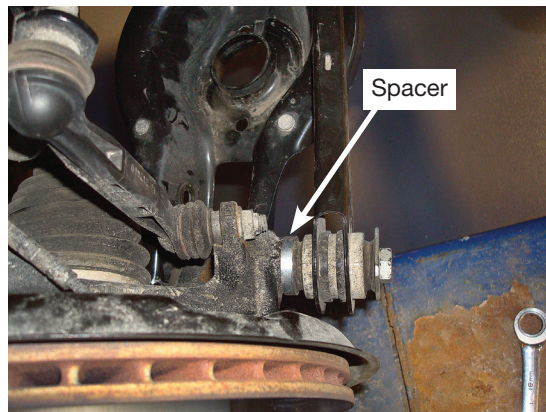

fig. D.13
1. Install spacer between the toe link and hub. Reinstall bolt. Torque at desired ride height (Fig. D.13).